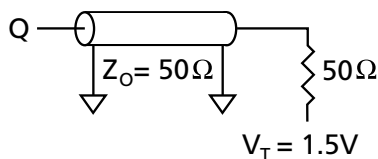
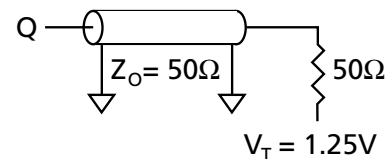

Figure 1
Figure 3
3. Test conditions as specified with output loading as shown in Figure 1 for 3.3V I/O ($V_{DDQ} = +3.3\text{V} \pm 0.165\text{V}$) and Figure 3 for 2.5V I/O ($V_{DDQ} = +2.5\text{V} \pm 0.4\text{V} / -0.125\text{V}$).
Output load	See Figures 1 and 2
Output load	See Figures 3 and 4